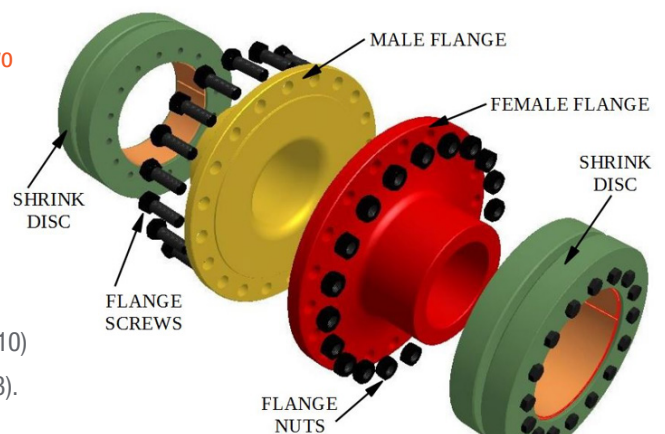

Fig. 1 Composition of Flange Coupling FCH2008
**Flange Couplings MAV FCH2008 are supplied ready for installation and are composed of (see figure 1):**